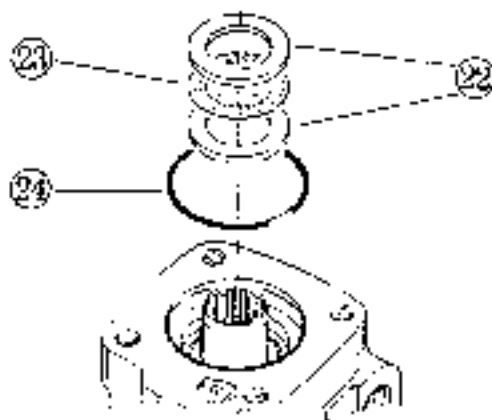
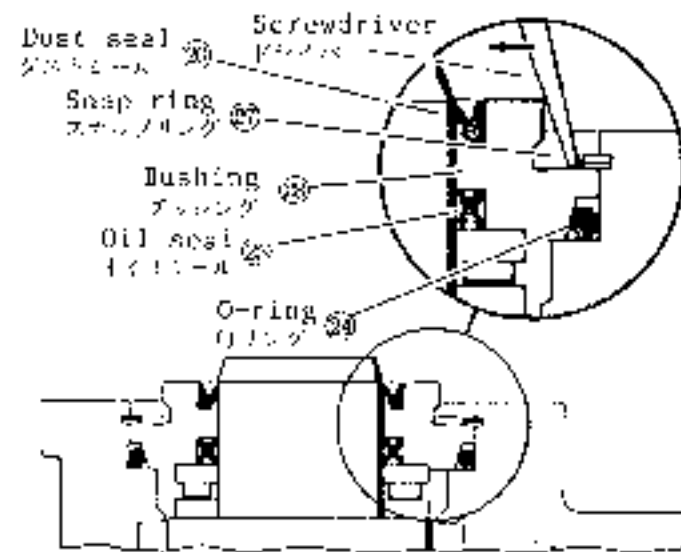

Fig. 18
Fig. 19
11. Place housing ⑩ on a clean flat surface, and insert O-ring ⑪, bearings ⑫ and bearing ⑬. (Fig. 18)
12. Install dust seal ⑭ in bushing ⑮ with the flat surface in contact with the bushing.
13. Install oil seal ⑯ into bushing ⑮ by forcing with fingers.
14. Put bushing ⑮ on spool ⑰ while turning. Seat it fully home by hammering with a plastic hammer. (Fig. 19)